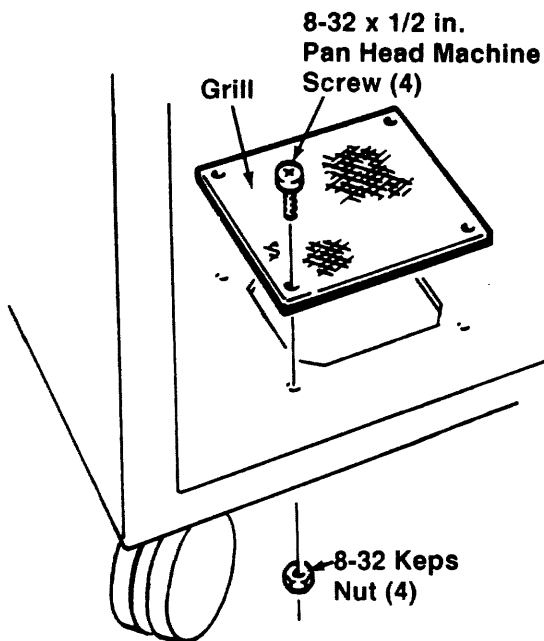

Figure 2-3.1C
Do Step 6 only if the Grill (Figure 2-3.1C) has not already been installed in the Workstation. Otherwise, go to Step 6.
- Secure the Grill (Item 3) on the base inside the Workstation with four 8-32 x 1/2 in. Pan Head Machine Screws (Item 4) and four 8-32 Keps Nuts (Item 5). The screw heads and Grill should be inside the Workstation with the nuts on the outside (Figure 2-3.1C).